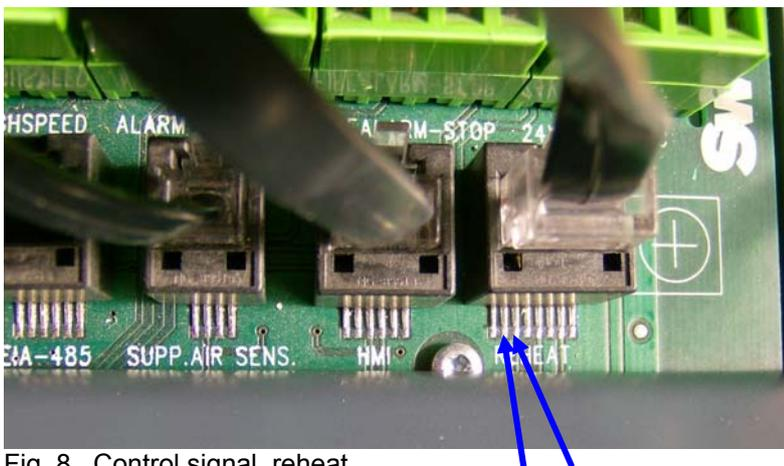

Fig. 8 Control signal, reheat
- Disconnect the 8-pole cable from the control unit. Measure on the control unit between soldering point 2 (-) and 3 (+) from the left, whether there is a 0-10 V DC signal on the output on the circuit card. See Fig. 8.